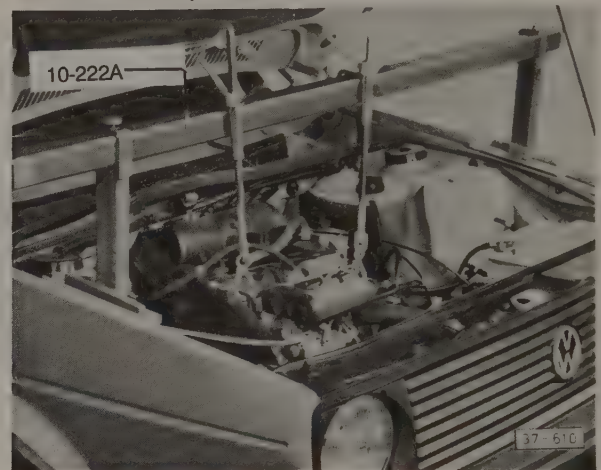

Fig. 6-14. Engine being supported by support tool. Volkswagen special tool no. 10-222A shown.
7. Install an engine support, as shown in Fig. 6-14, and increase tension until it supports the weight of the engine.